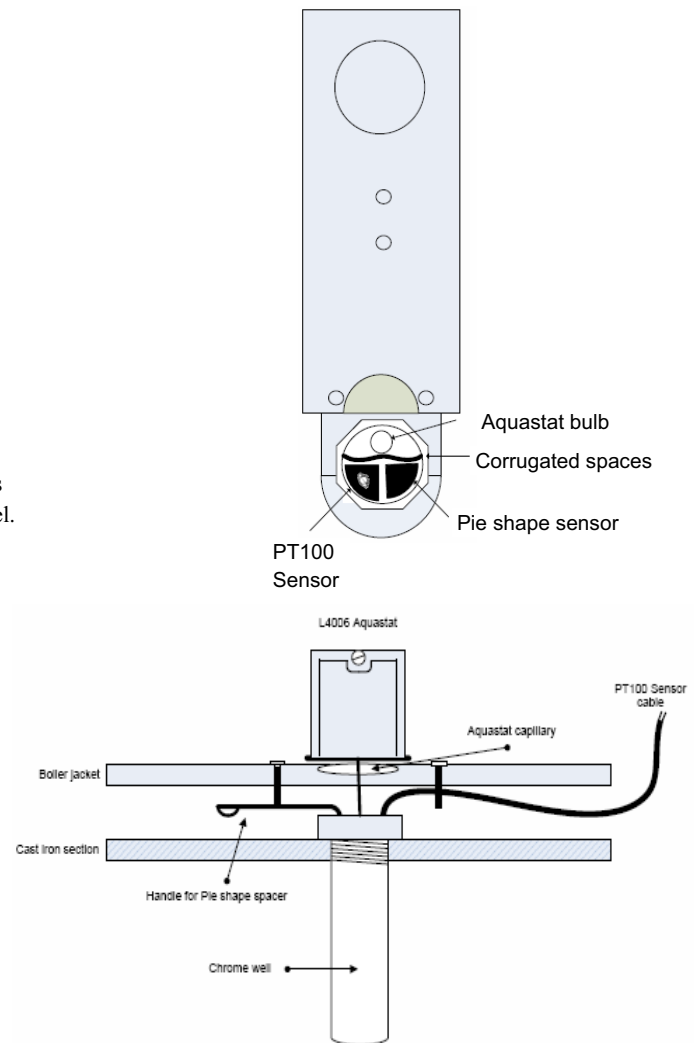

Fig. 10b: Sensor and capillary sensor details
- Identify the boiler sensor as part of the Janfire NH burner package. Slide contact sleeve (supplied in B-kit) around PT100 Sensor (Fig. 10b).